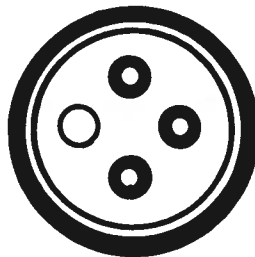

Figure 2.17 Sensor Drive 1 and 2 Connectors
2.2.2 SENSOR DRIVE 1 and 2 CONNECTORS (Figure 2.17)